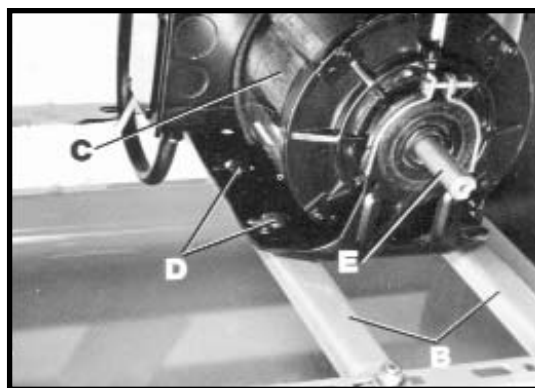
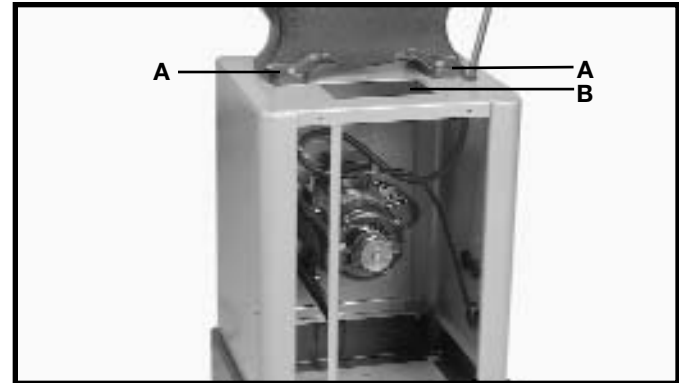

Fig. 6
Fig. 8
1. Turn the stand on its side with the two bars (B) Fig. 6 down.
2. Position the motor (C), Fig. 6 on the two horizontal support bars (B), and fasten with the four 5/16x18 carriage bolts and flanged nuts, two of which are shown at (D). **IMPORTANT: PLACE THE MOTOR SHAFT (E) ON THE SAME SIDE OF THE STAND AS THE LARGE OPENING AT THE TOP OF THE STAND (SEE (B) FIG. 8) BEFORE LOOSELY TIGHTENING THE CARRIAGE BOLTS (D).** Further alignment will be necessary after the saw is attached to the stand.
Attach the band saw to the stand in the four holes provided (two of which are shown at (A) Fig. 8). Place one 5/16 -18 x 1-3/4" hex head screw and one 5/16" flat washer through each hole through the bottom of the band saw and the top of the stand, and attach with a 5/16" lock washer, and 5/16-18 hex nut.